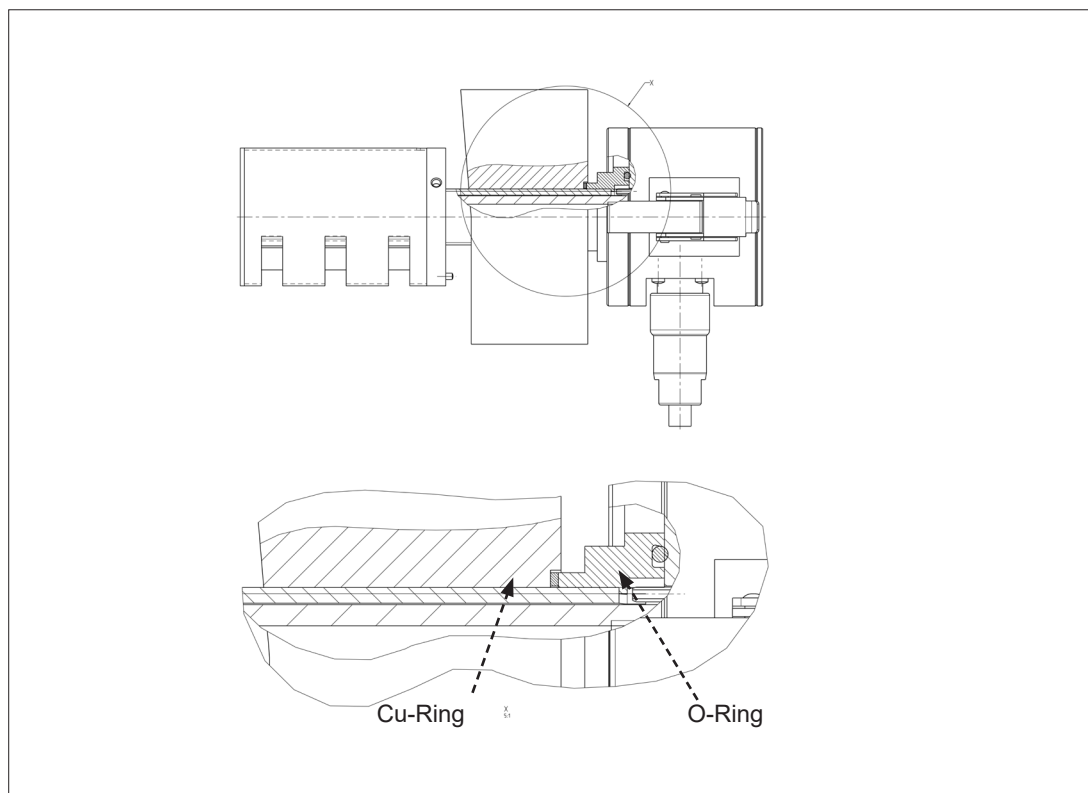

Fig. 8.15. Position of Seals
- Install finger sensor using the o-ring 36x2 mm. Fig. 8.15.